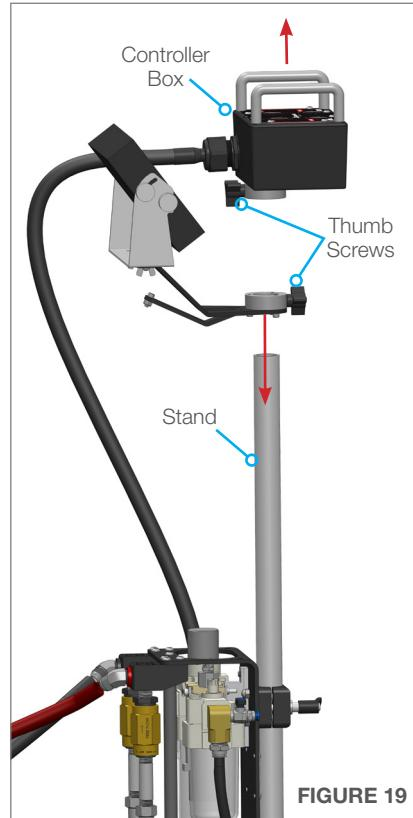

FIGURE 19
2. Loosen the thumb screws on the Controller box and Monitor Mount. Remove the Controller Box from the stand and slide the Monitor Mount on. **(Figure 19)** Return the Controller Box to the Stand and tighten the Thumb Screw. The Monitor Mount collar should sit just under the Controller Box Collar.